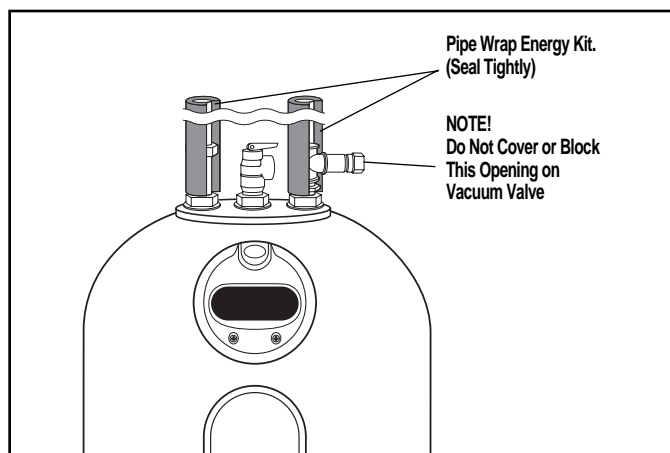

Figure 9 — Pipe Wrap Energy Kit
**8. PIPE WRAP ENERGY KIT** — A pipe wrap energy saving kit consisting of two lengths of foam insulation is included with this water heater. To realize maximum energy savings, all exposed pipes should be insulated. However, most of the energy losses occur close to the water heater. This kit is designed to minimize this loss. Install one piece of insulation on the cold water supply line and the other piece on the hot water line. (Refer to Figure 9). Install the pipe wrap as close to the water heater as the installation allows. Make sure fittings are covered and the joint in the pipe wrap is sealed.